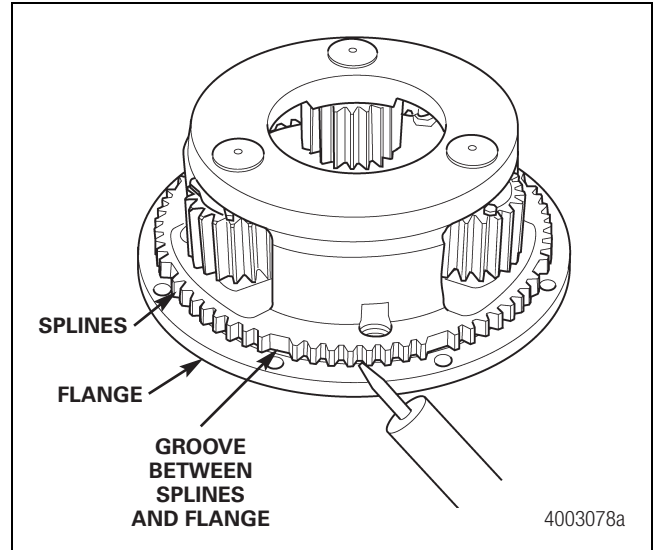

Figure 3.49
1. Apply a continuous 1/8-inch (3.2 mm) diameter bead of Loctite® 5699 adhesive sealant, part number 2297-A-7021, or ThreeBond 1216E grey silicone RTV sealant completely around the spider in the groove between the flange and splines, and on the spider face at the hole bolt circle diameter going around the inside of each hole. Figure 3.49.